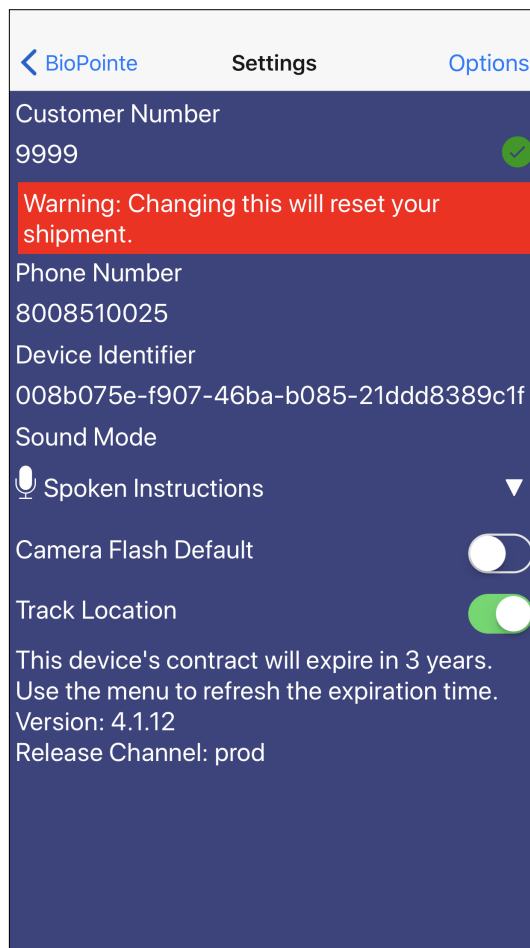

Fig 1
1. Customer Number and Phone Number are editable from settings. Changing the customer number will reset your shipment. See Fig 1
2. Camera Flash and Track Location may be toggled on and off. See Fig 1